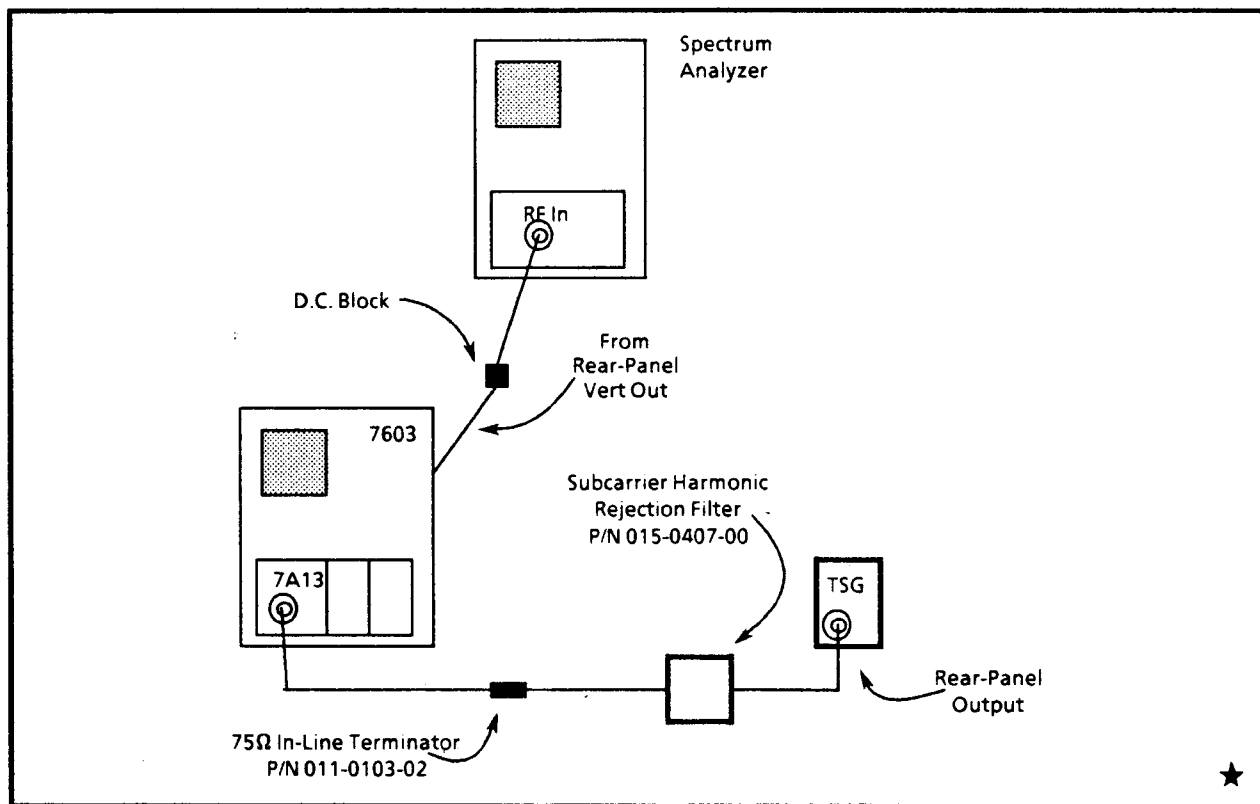

Fig. 3. Equipment Connections for Residual Chrominance Measurement.
i. CHECK/ADJUST - for less than 0.5 mV subcarrier on the white bar (See Fig. 3 for equipment connection diagram; oscilloscope at 1 mV, full bandwidth, trigger source - left). Adjust R249 to set the subcarrier amplitude to read 5 mV on the oscilloscope, and note the residual subcarrier level on the spectrum analyzer. Adjust R249 for minimum residual amplitude, and check that it is at least 20 dB down from the original level.